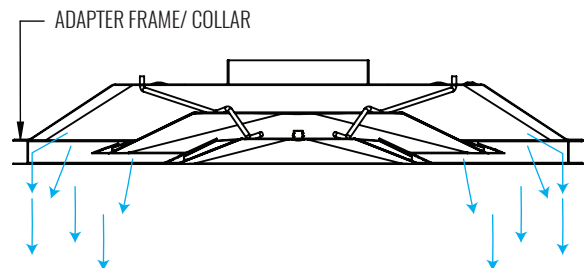

Figure 4: Diffuser Collar at Face Design
3. A third concept is a clear plastic collar around a ceiling diffuser that directs the air downward to have vertical throw into the space instead of horizontal throw along the ceiling, as shown in **Figure 4**. Such collars are often found in high traffic locations and fast-food establishments. While it may prevent smudging of the adjacent surface, it will most certainly create a draft under the outlet. Only if the ceilings are high enough and the airflow low enough, might this be acceptable.